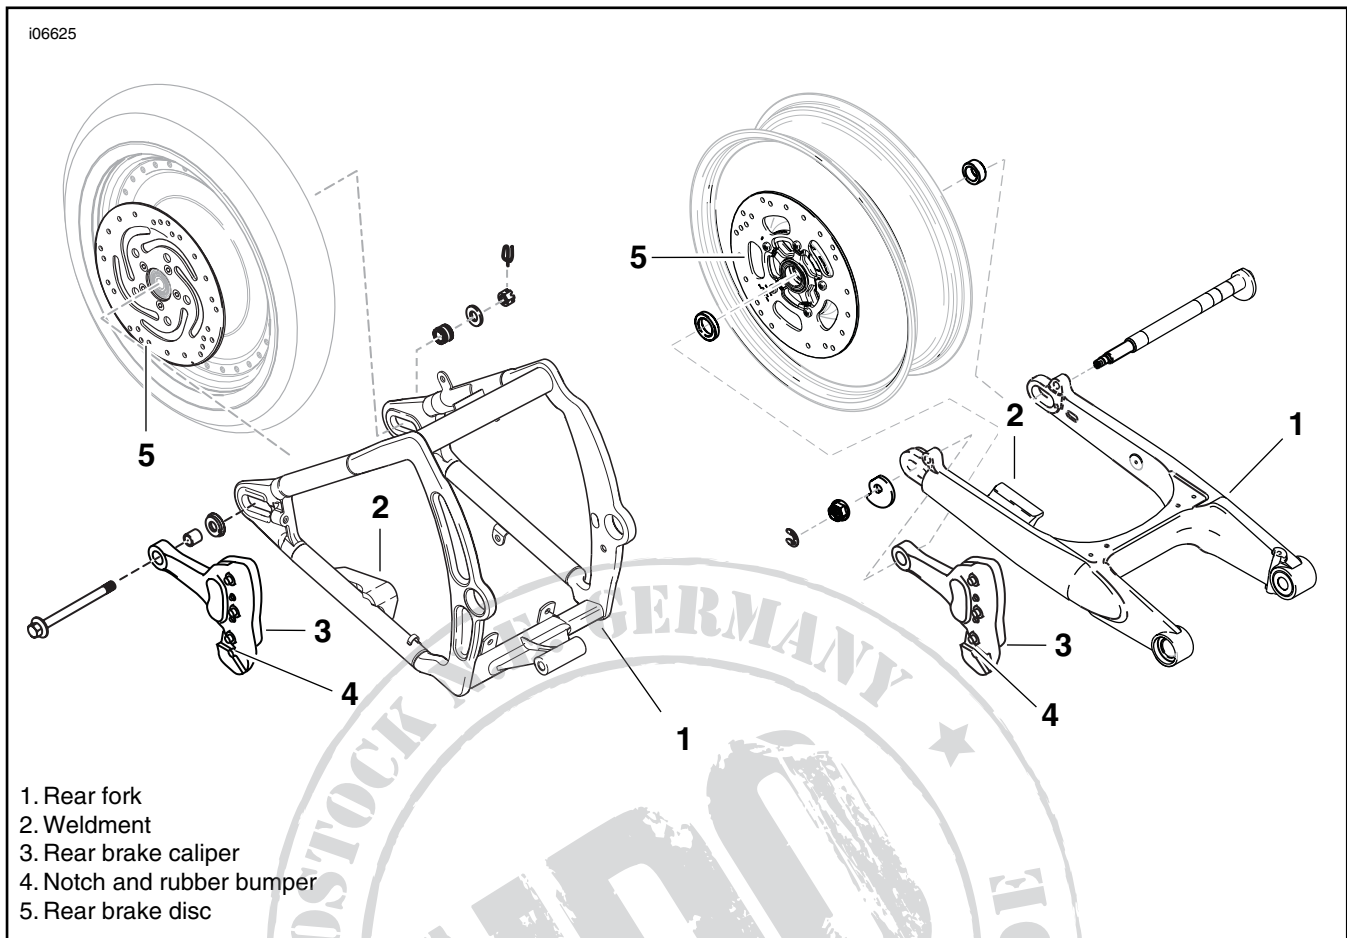

Figure 5. Rear Wheel, Axle, and Caliper Assembly (Softtail left - V-Rod right)
2. See Figure 5. Lift the stock rear brake caliper toward the front of the motorcycle. The notch in the caliper must clear the weldment (2) on the swing arm.
**For all models except V-Rod:** See Figure 5. Fill reservoir 1/8 in. (3.2 mm) below gasket surface.